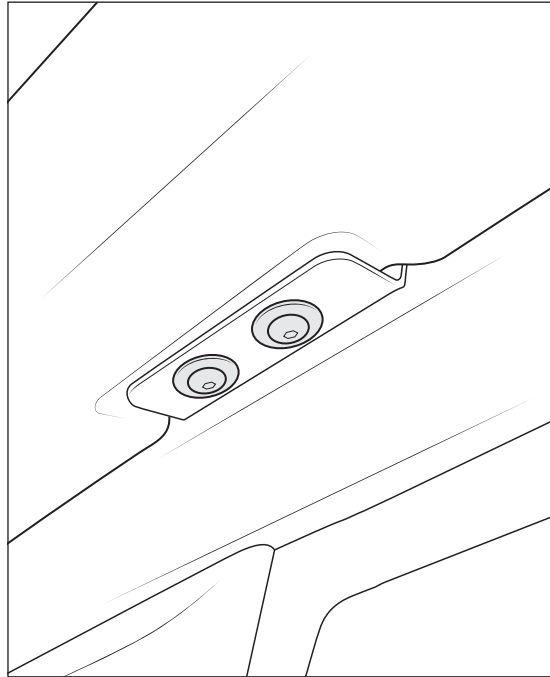

Figure 13
- C. Using two M6x1.0x16mm bolts and washers, attach upper main body to A-Pillar Bracket (fig. 13).